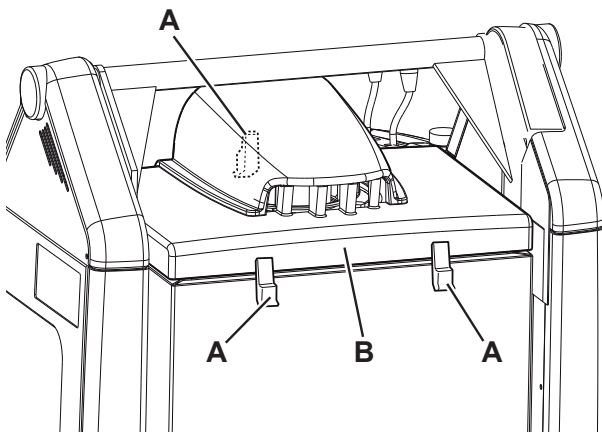

Figure 12
9. Drive the machine on a level ground and engage the parking brake with the pedal (75) and the lever (68).
10. Turn the ignition key (67) to "0".
11. Open the hood (22) and fasten it with the support rod (36).
12. Disconnect the battery connector (25).
13. Disconnect the vacuum system motor connector (30).
14. Release the fasteners (A, Fig. 12) and remove the vacuum system cover (B).
1. Drive the machine on a level ground and engage the parking brake with the pedal (75) and the lever (68).
2. Turn the ignition key (67) to "0".
3. Open the hood (22) and fasten it with the support rod (36).
4. Disconnect the vacuum system motor connector (30).
5. Release the fasteners (A, Fig. 12) and remove the vacuum system cover (B).